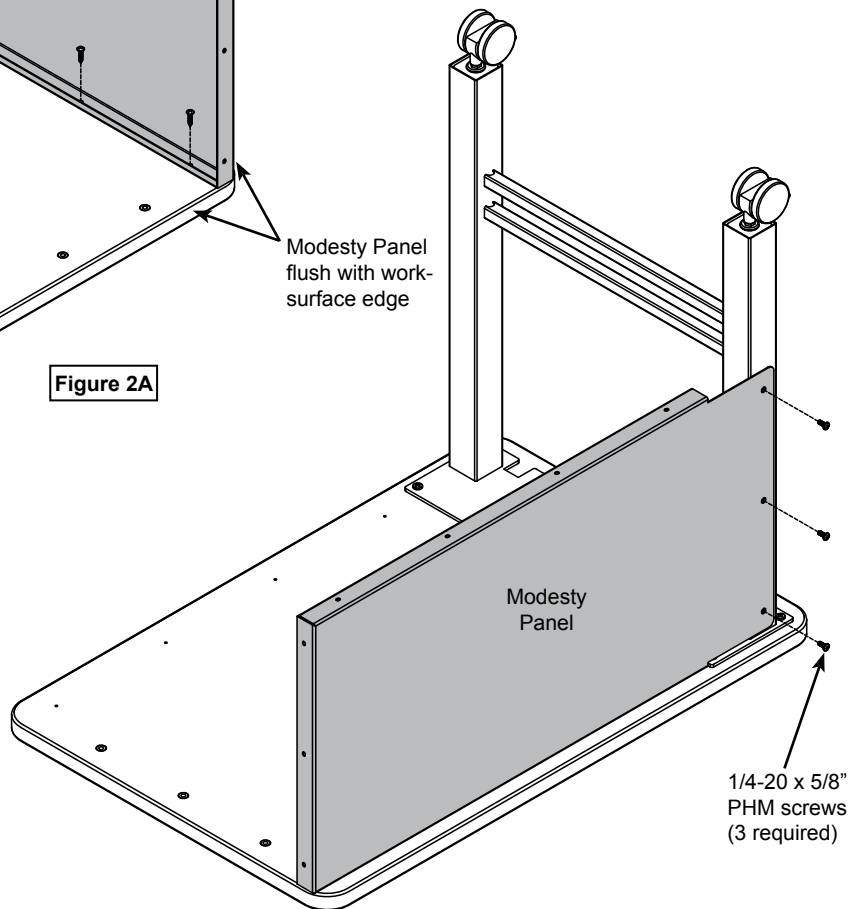

Figure 2B
5. Attach the modesty panel to the leg with (3) 1/4-20 x 5/8" PHM screws. **Figure 2B.**